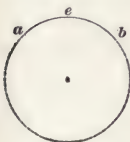

FIG. 41.
**70.** An **arc** of a circle (see  $aeb$ , Fig. 41) is any part of its circumference.